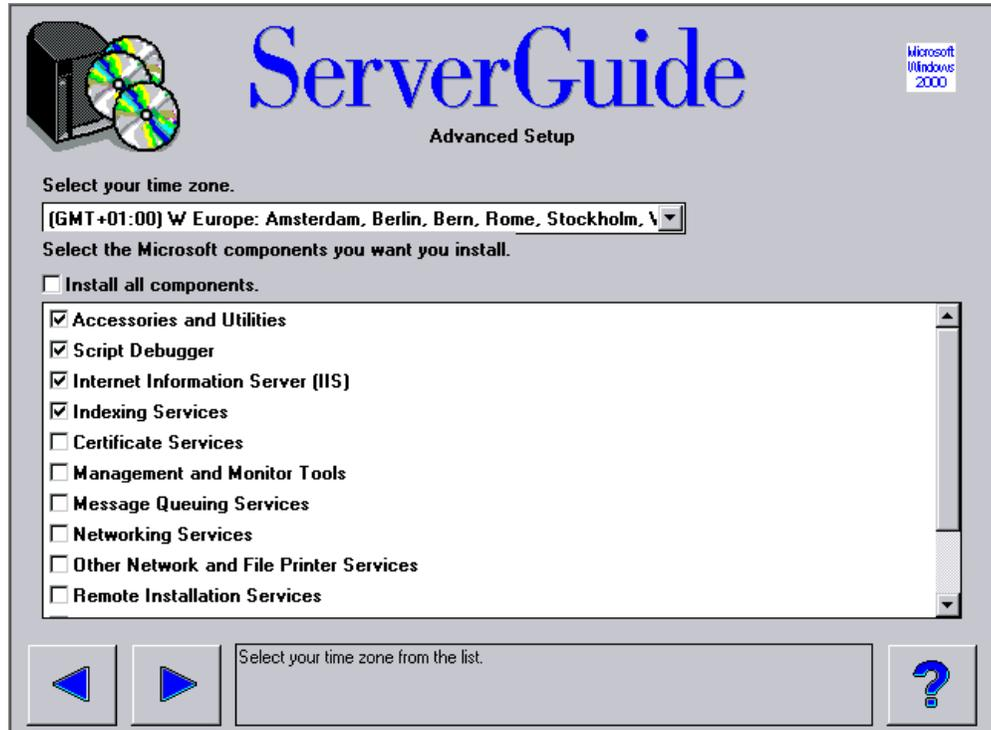

Figure 41. Select the time zone and components to install
22. A window similar to Figure 41 asks you for the time zone and components you want to install. Once the Windows 2000 installation has completed, components can be installed and uninstalled at any time using the Add/Remove Programs icon in the Control Panel. Click  to continue.